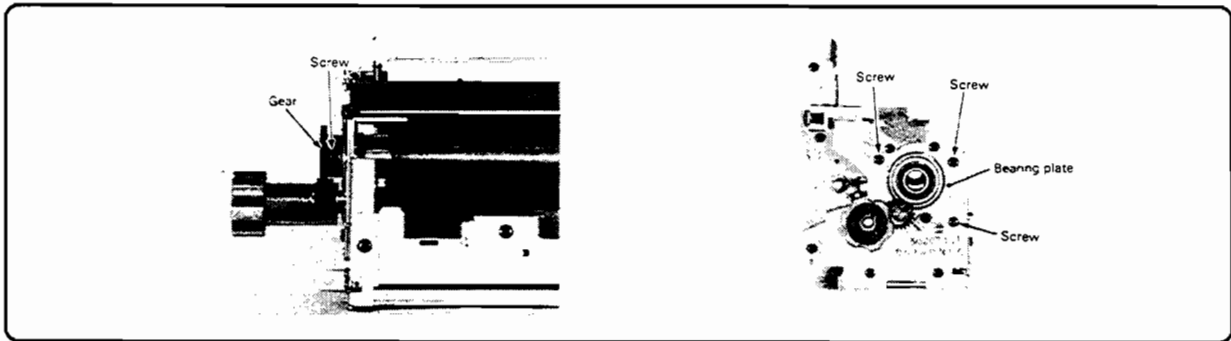

Figure 6-79. Roller Gear and Bearing Plate
8. Remove the screw and detach the front roller gear (Figure 6-79).
9. Remove the three screws and detach the front bearing and bearing plate (Figure 6-79).